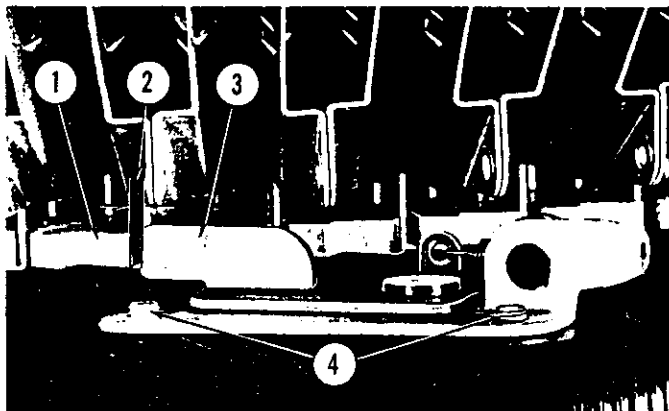

Fig. 83. BACK STOP PAWL SETTING
(1) Loosen the two screws (Item 4, Fig. 83) that hold the back stop pawl and bracket assembly to the chassis mounting plate.
(3) Carefully maintain this condition of alignment and set the left hand back stop pawl to engage with the adjacent tooth of the record carrier casting to a depth of $1/32$ " to $1/16$ " as shown in Fig. 83.